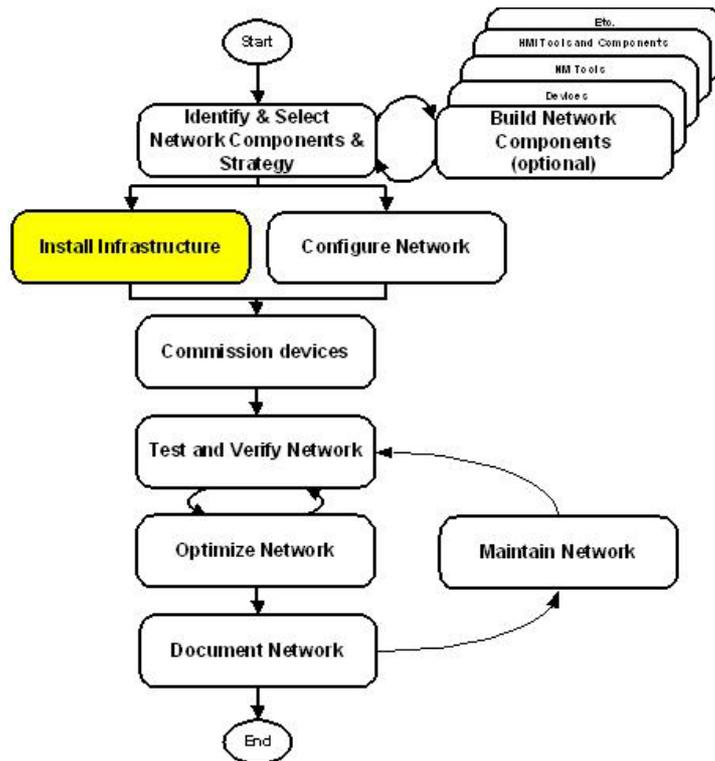

Fig.13 Network installation, commissioning, maintenance and management process
*LNS/LCA uses ActiveX (OLE) and Microsoft Windows O/S. One example of such all-in-one Lonworks Network Management Tool is **LonMaker For Windows** and its use as a tool in network design, install, commission, maintenance and management is shown in Fig.13, and the process is briefly described below.*